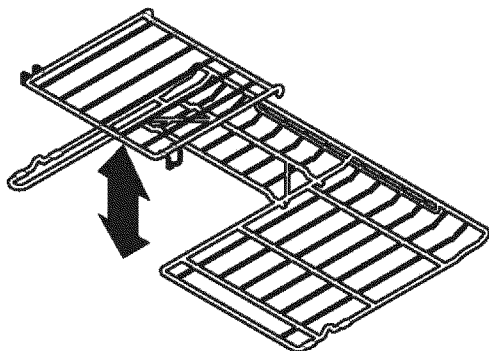

**Figure 1 - All models**
- **Flat handle oven rack** (All models- Figure 1).